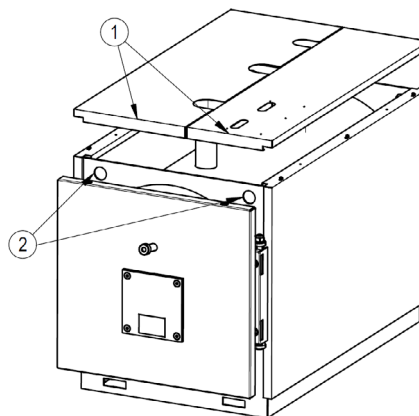

fig. 5
5.2.1 For models PREXTERM RSW 92N+600N (Fig. 5)